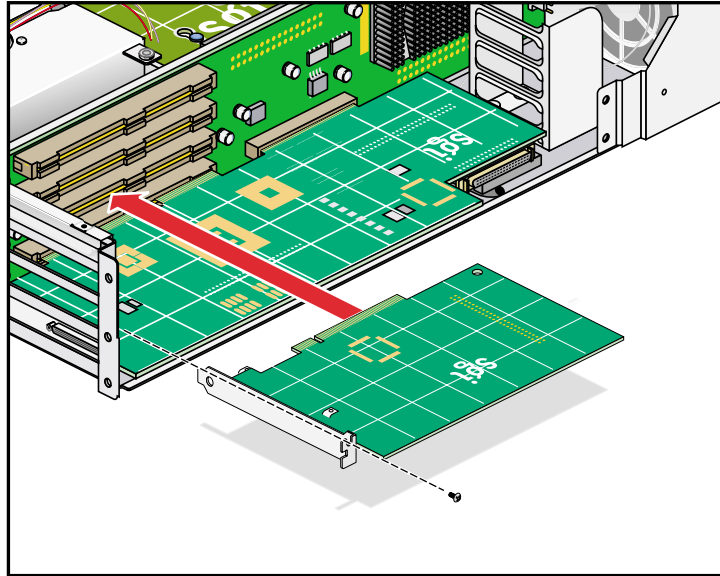

Figure 6-6 Installing the Card and Installing the Retaining Screw
10. Insert the card into the slot by pushing the card into the connector until it is properly seated and install the retaining screw, as shown in Figure 6-6. If you have installed the card into one of the upper two slots, proceed to step 13.